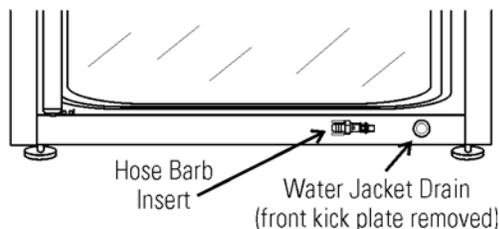

Figure 4-10, Water Jacket Drain and Hose Barb Insert
5. After water jacket has finished draining, remove the hose barb insert and secure on the front of the unit. See Figure 4-10 and 4-11.